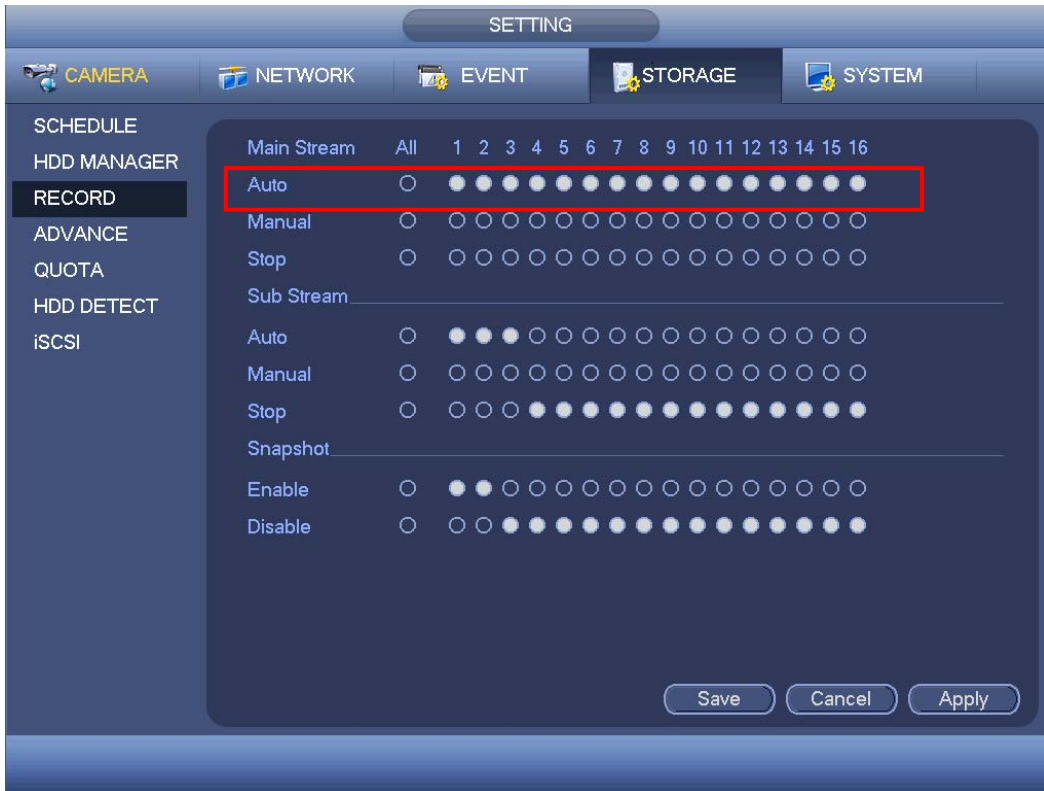

Figure 4-80
- On the preview interface, right click mouse and then select Manual->Record, or in the main menu, from Setting->Storage->Record, check the box to enable schedule function of corresponding channels. See Figure 4-80.